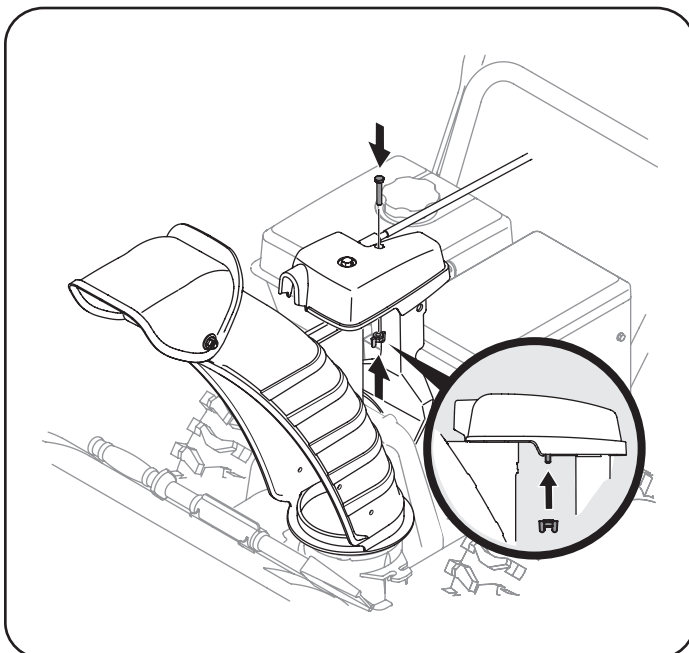

Figure 6
3. Finish securing chute control head to chute support bracket with wing nut and hex screw removed in Step 5. See Figure 6.